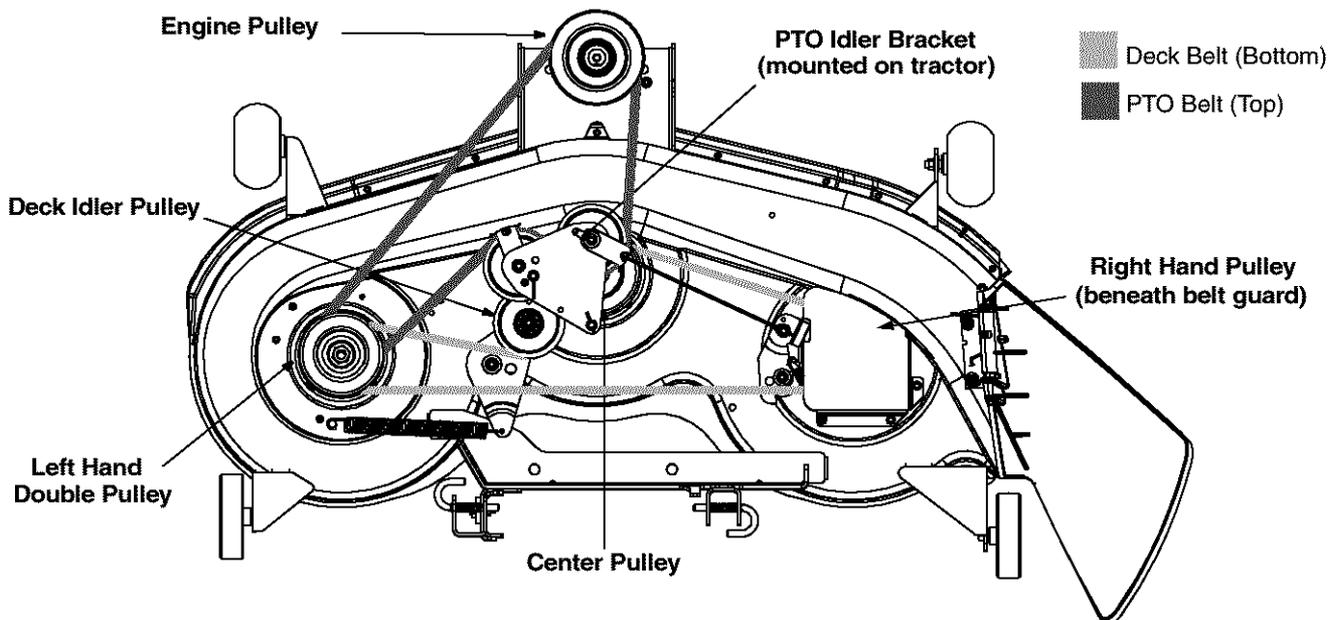

Figure 9
- Grasp the PTO idler bracket and pivot it toward the discharge chute to relieve tension on the PTO belt. See Figure 9.
- Route the new belts as shown in Figure 9.